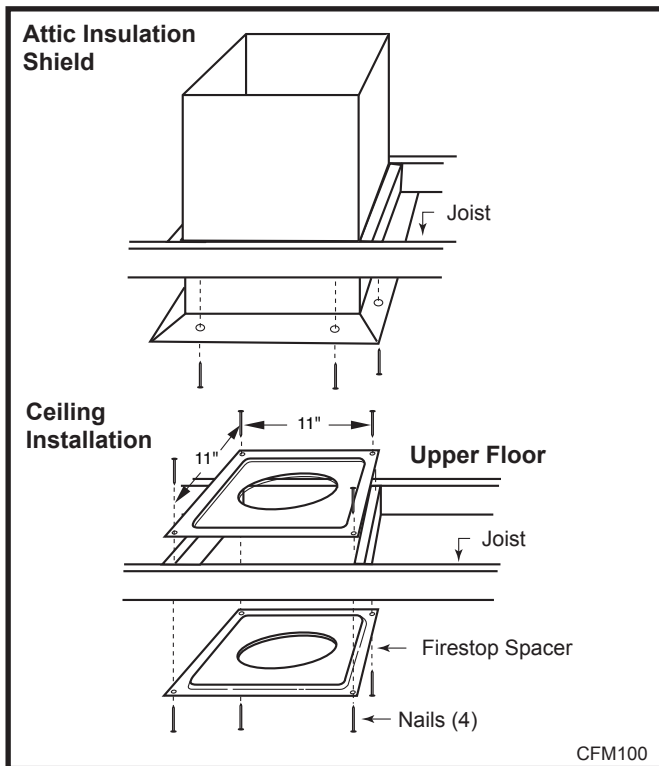

Fig. 38 Place firestop spacer(s) and secure.
6. Place firestop(s) #7DVFS or Attic Insulation Shield #7DVAIS into position and secure. (Fig. 38)
If there is room above ceiling level, firestop spacer must be installed on both the bottom and the top side of the ceiling joists. If an attic is above ceiling level a 7DVAIS (Attic Insulation Shield) must be installed. (Fig. 38)